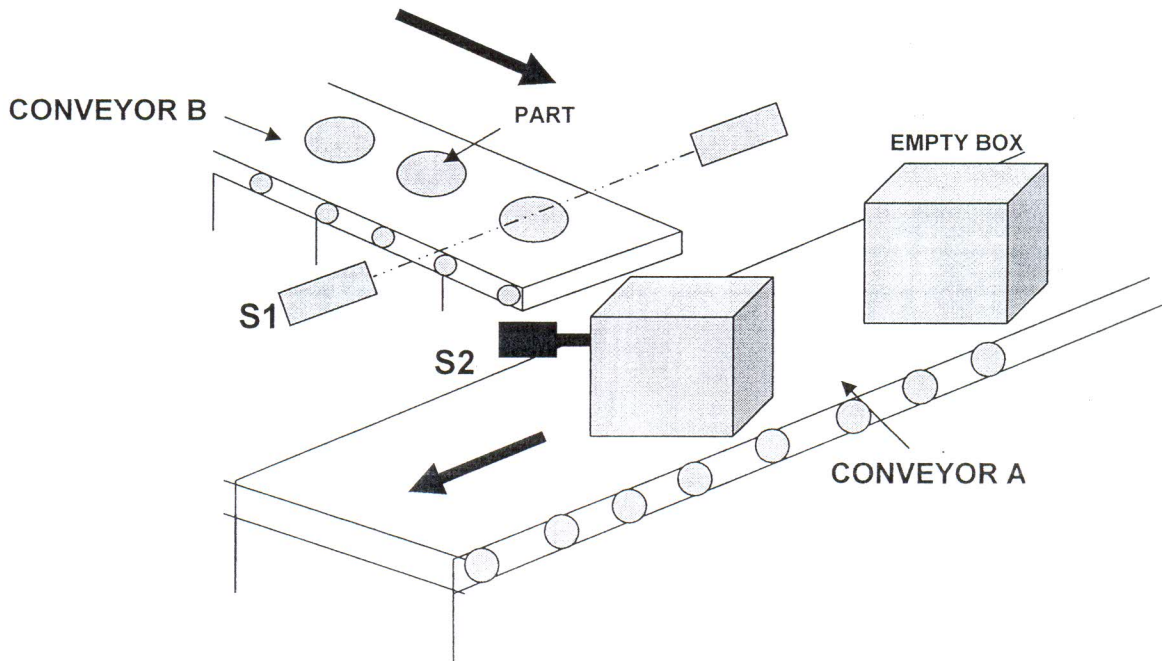

Figure 5: Apples Conveyor System
- (c) Design the Ladder Diagram for the system in **Figure 5**. (6 marks)